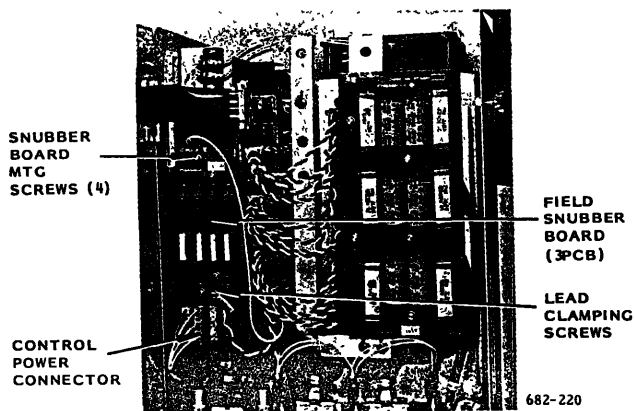

Fig. 11 Field Thyristor Assembly
1. Remove the four mounting screws of field snubber board (3PCB), lead clamping screws, control power connector. Then, remove snubber board. See Fig. 11.